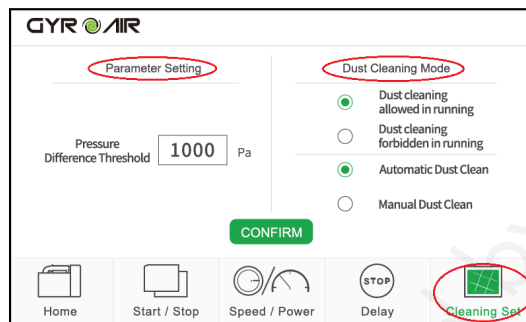

Figure 10-8
Set up the dust cleaning parameter and select the dust cleaning mode by clicking on the “Cleaning Set” button (figure 10-8).
1. Set up the dust cleaning parameter (figure 10-8):
2. Set up the dust cleaning mode (figure 10-8):